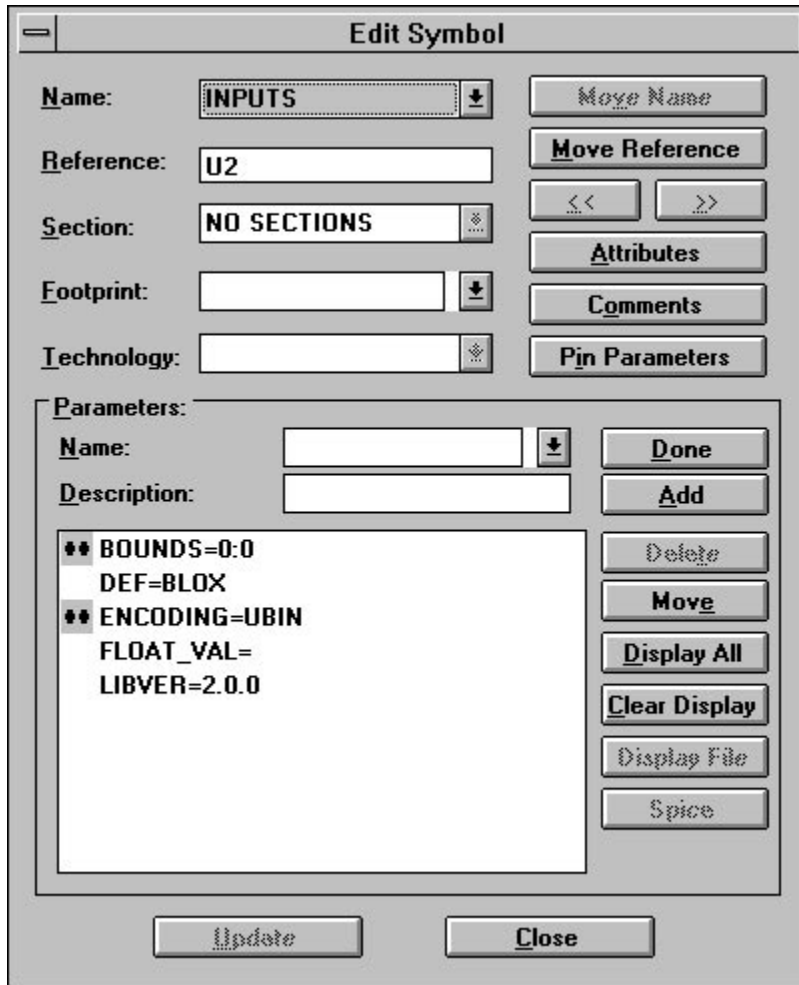

Figure 2. Setting Up The Pin Parameters.
3. Double-click on the INPUTS symbol to edit its pin parameters. In response, ACTIVE-CAD displays the **Edit Symbol** window, shown in Figure 2.